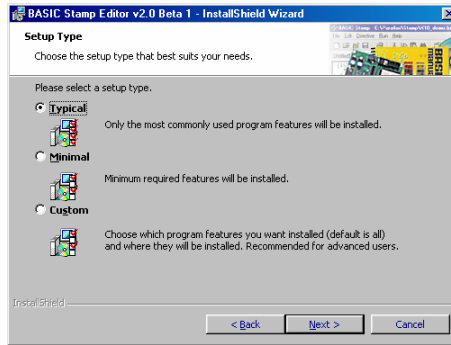

Figure 1-19
- √ Select *Typical* for your setup type as shown in Figure 1-19.